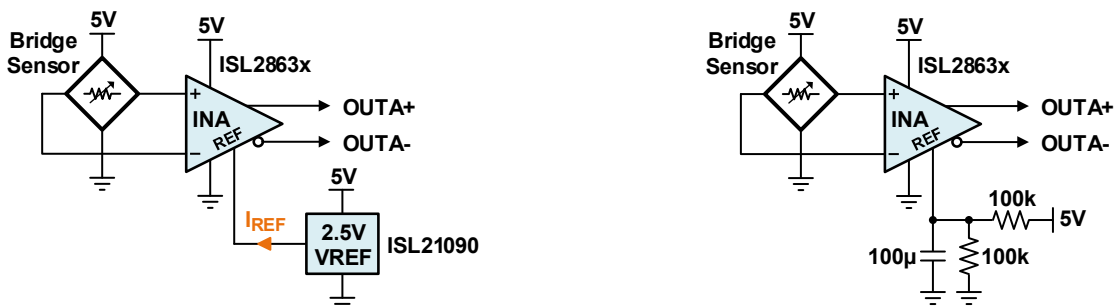

Figure 15. Driving the REF Input of the ISL2863x with a Voltage Reference IC, or with a Buffered Voltage Divider
An even more elegant solution, using much smaller capacitor values, is the 2nd order active low-pass filter in Figure 15. Making  $C_2 = 2 \cdot C_1$  increases the quality factor to  $Q = \sqrt{C_2/4C_1} = 0.707$ , therefore, generating a sharper pass-to-stop band transition.
**Note:** The REF input of the ISL2863x instrumentation amplifier with differential output is internally buffered. Here, the reference input can be driven either with an integrated reference circuit, or with an external voltage divider similar to the one in Figure 15. Any additional low-pass filtering though, requires an additional op-amp.